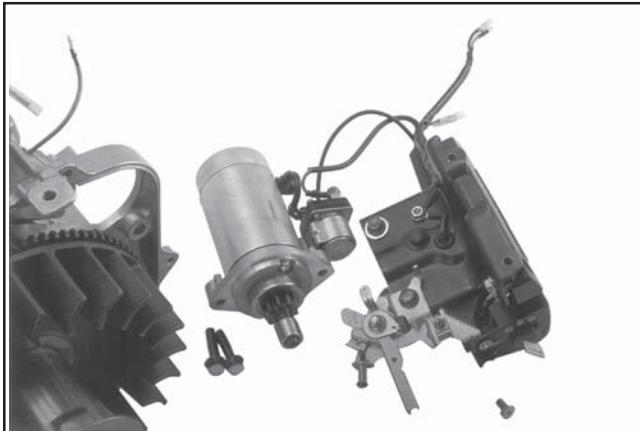

Figure 9-31. Inertia Drive Starter and Control Panel Removed.
2. Remove the two front fuel tank bracket (not used on CS8.5 [spec. 95xxxx]) mounting screws, attaching the throttle lever mechanism, switch and oil sentry light bracket. On electric start engines the electrical control panel housing will also be included. Note the washer used on PTO side screw only. See Figure 9-31.
5. Remove the starter motor, wiring harness and control panel housing from the engine. Components may be further disassembled if required. See Figures 9-31, 9-32, and 9-33.